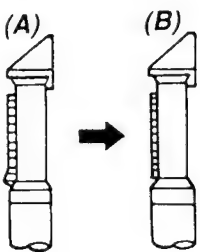

Fig. 5-4-4 Rough check of No. 8 guide
2. Adjust the ACE tilt adjusting screw until tape wrinkle is caused at the lower flange of No. 8 guide as shown in Fig. 5-4-4 (A).
3. Turn the ACE tilt adjusting screw counterclockwise until the tape travels along the lower flange as shown in Fig. 5-4-4 (B).